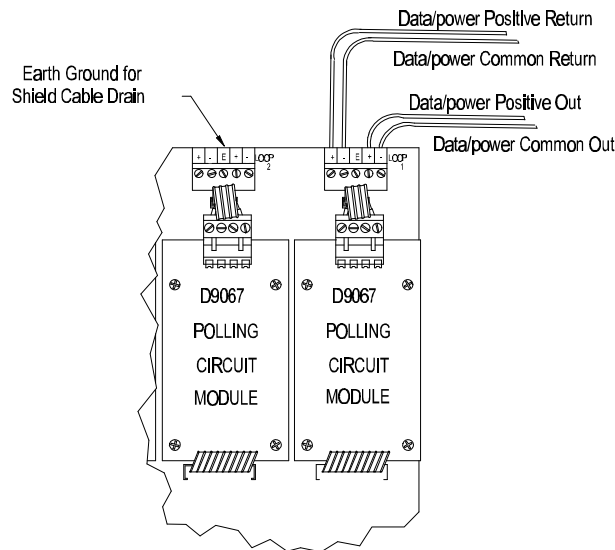

Figure 2: Ground Location on Control Module
- Under extremely noisy conditions, twisted pair wire is recommended to reduce interference. If EMI is a problem, use shielded cable, being careful to ground the drain wire to the earth ground terminal on the D8024 board. See Figure 2.